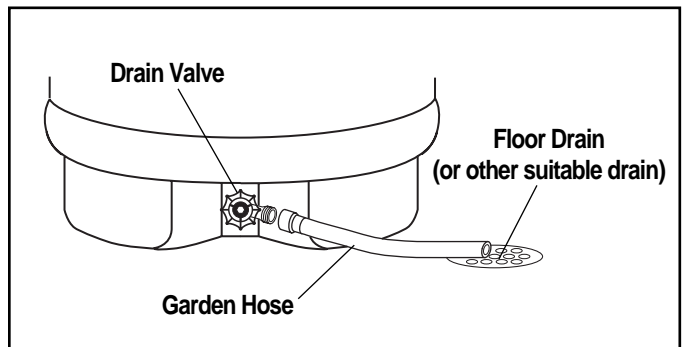

Figure 15 — Draining the Tank
In order to drain water heater, turn off the power supply, then turn off cold water supply. Next, it is necessary to open a hot water faucet or lift the handle on the relief valve to admit air to the tank, and KEEP OPEN. Attach a garden hose to the drain valve on the water heater, and open the valve. Direct the stream of water to a drain where it will do no damage. (See Figure 15).
- D. A water heater’s tank can act as a settling basin for solids (sand, silt, dirt and mineral scale) suspended in the water. It is, therefore, not uncommon for these deposits to accumulate in the bottom of the tank. It is suggested that a few quarts of water be drained from the water heater’s tank **ONCE EVERY MONTH** to clean the tank of these deposits. (See Figure 15)
- C. Fasten a length of garden hose to the drain valve. Place the other end of the hose at a floor drain, or other suitable location. (See Figure 15)
- C. Fasten a length of garden hose to the drain valve. Place the other end of the hose at a floor drain, or other suitable location. (See Fig. 15)